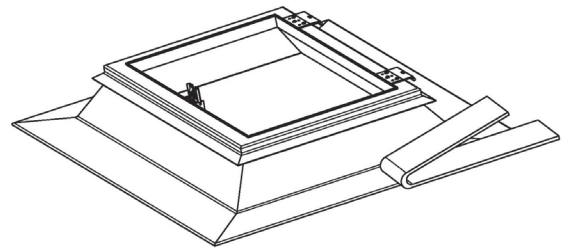

Fig 2.
2. Upstand is to be fixed with roof cladding according to the required standards. (Fig 2)